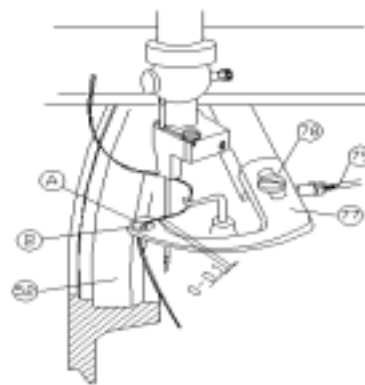
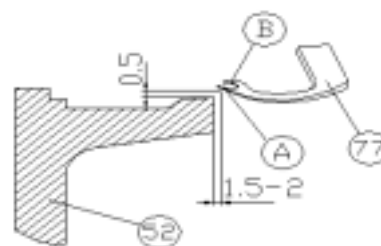
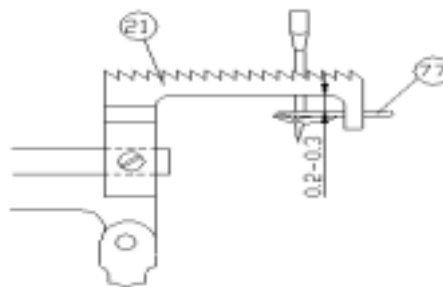

FIG.40
FIG.41
FIG.42
The thread loader (77) serves to load the thread into the needle. The rear part (A) of the tip, when in its position closest to the needle, should graze the needle without bending it. The position can be adjusted by moving the thread loader on its support after loosening the two screws (78). FIG.40. When the thread loader is at the end of its traverse to the right, the distance between the rear part (A) and the right-hand edge of the thread-loading wheel (52) should be 1.5 - 2 mm. FIG. 41.
The correct distance is obtained by adjusting the tie rod (79) between the two joints. The height is adjusted by bending the thread loader. FIG. 41. Check that there is a gap of about 0.2-0.3mm between the thread loader and the lower part of the feed dog. FIG. 42.